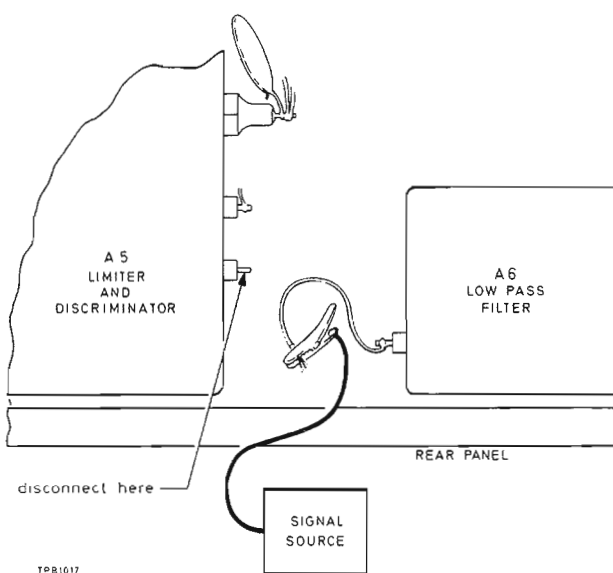

Fig. 5.3 Location of discriminator output lead
- (1) Connect the 0.014  $\mu$ F capacitor, r. m. s. voltmeter and oscilloscope across the OUTPUT terminals.
- (2) Turn the oscillator RANGE switch to EXT.
- (3) Connect the 1.5 Mc/s crystal oscillator to the R. F. IN socket and turn the MAX MOD FREQ switch to 15 kc/s.
- (4) Turn the Function switch to SET FREQ-F. M. and check that the TF 2300 meter deflects to the SET mark.
- (5) Turn the Function switch to TUNE and adjust the LEVEL control to bring the TF 2300 meter reading to the top end of the black R. F. LEVEL arc.
- (6) Turn the Function switch to SET CAL and adjust the r. m. s. voltmeter range switch to give a convenient reference level. Note this reference level.
- (7) Turn the Function switch to DEV+ and the RANGE switch to 5 kc/s. Turn down the external voltmeter range switch and check that the reading is at least 52 dB below the reference level, i. e. -72 dB relative to the level of 50 kc/s deviation.
- (8) If not, remove the yellow lead from the discriminator output, A5 pin 4 (see Fig. 5.3) and check that the noise level drops to -58 dB. A high noise figure can be improved by selection of transistors VT3, VT4, VT5 and VT6 in the discriminator (A5) and/or by selecting a new value for A5R13.